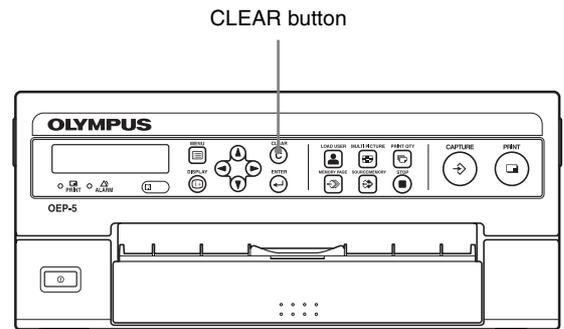

Figure 4.16
- 1 While the memory image is being displayed, press the “CLEAR” button (see Figure 4.16). The images stored in the memory are cleared.